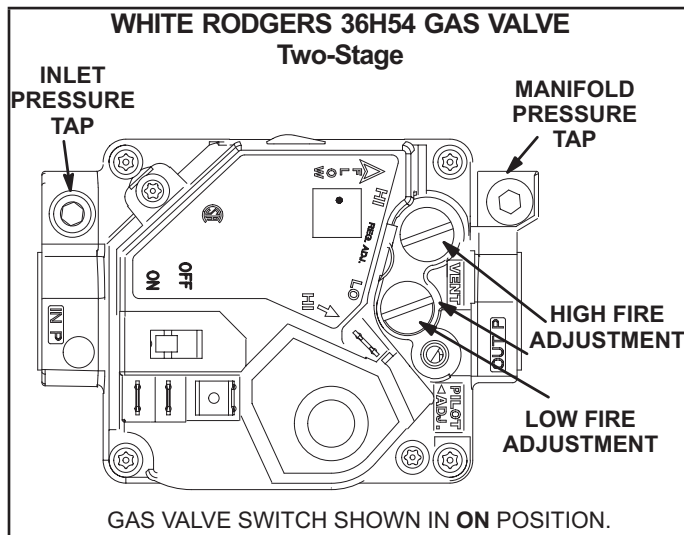
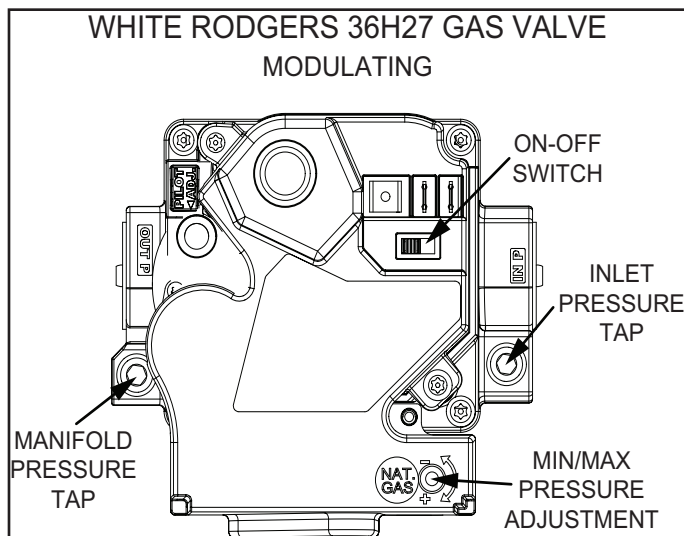

FIGURE 36
FIGURE 37
- 5 - Turn gas valve switch to **OFF**. See FIGURE 36 and FIGURE 37.
- 6 - Wait five (5) minutes to clear out any gas. If you then smell gas, **STOP!** Immediately call your gas supplier from a neighbor's phone. Follow the gas supplier's instructions. If you do not smell gas, go to the next step.
- 7 - Turn gas valve switch to **ON**. See FIGURE 36 and FIGURE 37.
For White Rodgers 36H54 and 36H27 valves (FIGURE 36 and FIGURE 37), supply pressure is accessed by removing 1/8" hex screw. Remove the 1/8" hex screw and install a 1/8" fitting with hose barb. Connect tubing from the barbed fitting and route to measuring device to measure supply pressure.
For White Rodgers 36H54 and 36H27 valves (FIGURE 36 and FIGURE 37), remove supply pressure barbed fitting and reinstall the 1/8" hex screw.
For White Rodgers 36H54 and 36H27 valves (FIGURE 36 and FIGURE 37) manifold pressure, remove the 1/8" hex screw, install 1/8" fitting with hose barb, connect hose from barb to "+" side of measuring device.
- 4 - If necessary, adjust manifold pressure. FIGURE 36 and FIGURE 37 show adjustment screw(s) locations.